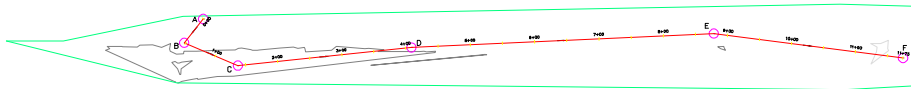

Figure 5-62 The Road A alignment created
4. Continue creating the alignment between the circles C, D, E, and F (leave the last one which is circle G). Press ENTER to terminate the command at the circle F. The alignment is created, as shown in Figure 5-62.